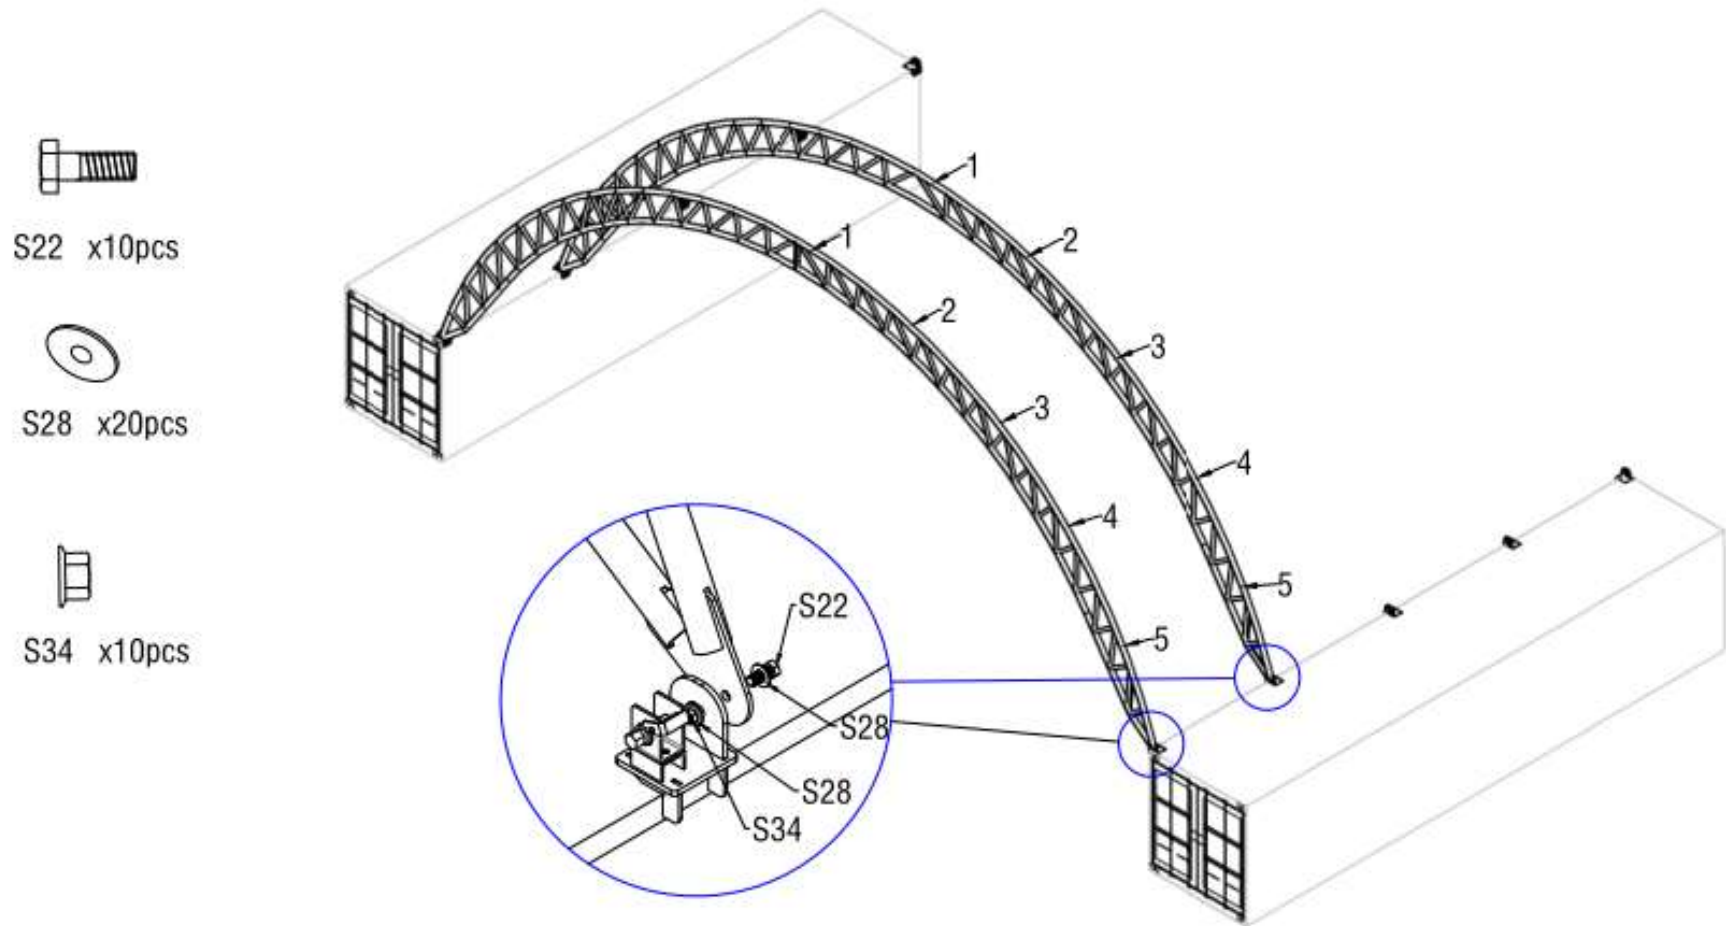

Figure 4
2.2 As Figure 4 shows,install the Supporting Webbing between the arch(No.6)by using(No.S18&S30).Then put the PVC protective cover on the outer of connection of the arch to protect the roof cover from scratched by the outer joint.
2.3 Lift an assembled arch onto one base plate and connect the arch with the base plate by using Part no S22&28&34. and force the other end of the arch onto the opposite base plate by same way as Figure 4 shows.